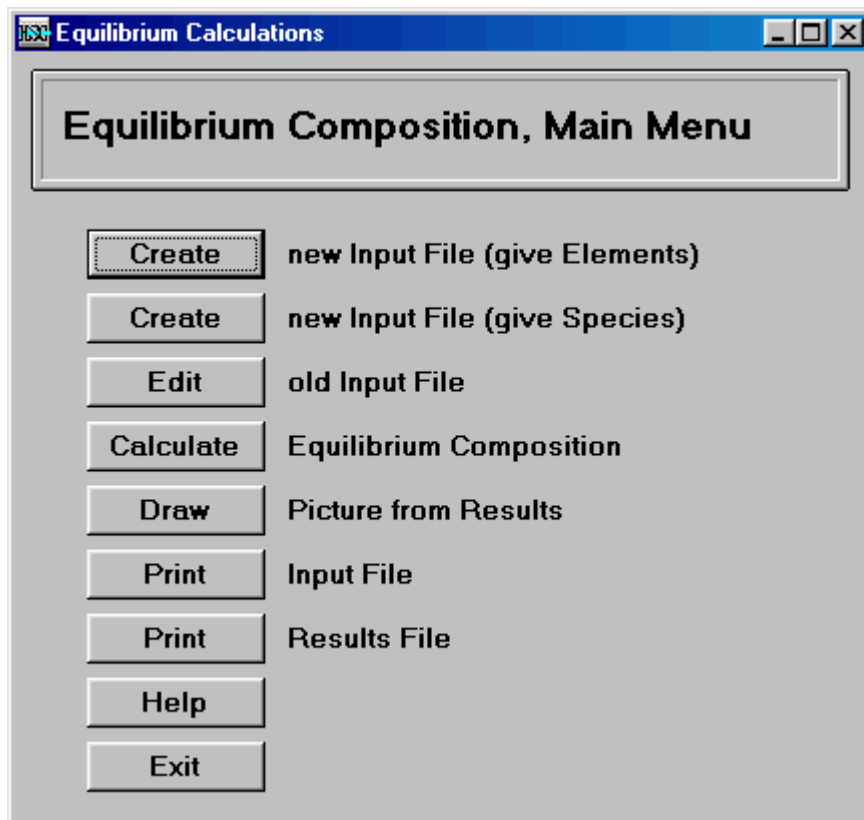
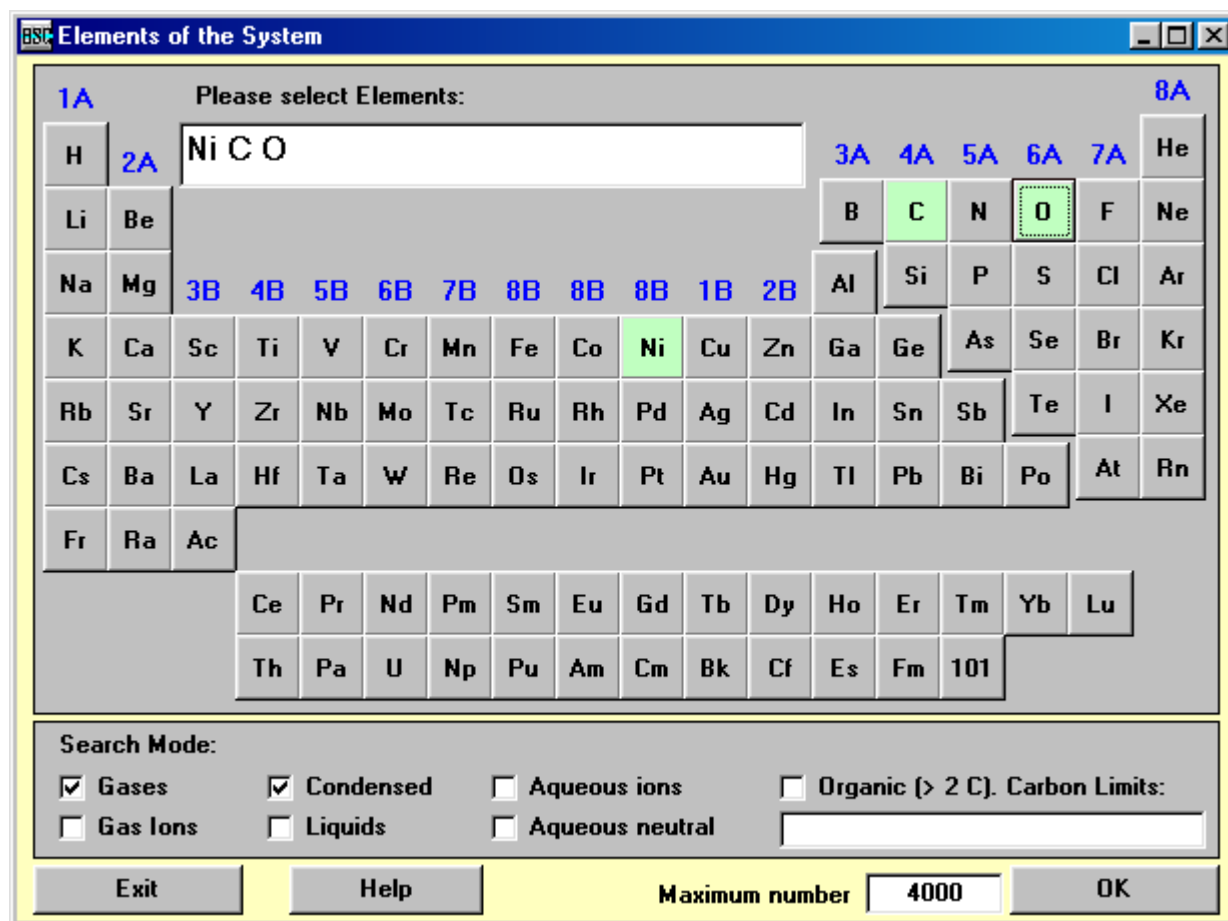

Fig. 1. Equilibrium Module Menu.
Fig. 2. Specifying the elements of the system.
The equilibrium composition is calculated using the GIBBS or SOLGASMIX solvers, which use the Gibbs energy minimization method. The results are saved in *.OGI or *.OSG text files respectively. The post-processing PIC-program reads the result files and draws pictures of the equilibrium configurations if several equilibria have been calculated. The user can toggle between the equilibrium and graphics programs by pressing the buttons shown in Figs. 1, 4, 6 and 7.
1. Press the **top button** in the menu, see Fig. 1. Then specify the elements which are present in your system, see Fig. 2. The HSC-program will search for all the available species in the database and divide them, as default, into gas, condensed and aqueous phases. The user can then edit this preliminary input table.
1. Press the **second button** of the menu if you already know for sure the possible substances and the phases of the system, see Fig. 1.
1. Press **Edit Old Input File** if you already have an input file which can be used as a starting file. Edit the input table and save it using a different name, see Fig. 1.
If you only want to calculate the equilibrium compositions with the existing *.IGI-files press **Calculate**, see Fig. 1. If you want to draw pictures from the existing *.OGI files
made by the GIBBS-solver press **Draw**, see Fig. 1. Using **Print** you can get a paper copy of the *.IGI and *.OGI files.
If you do not know the substances of the system you may also start by specifying its elements, i.e. a selection of the system components. The elements selected will be displayed in the Elements Window, see Fig. 2. After pressing **Elements** in the Equilibrium Menu, see Fig. 1, you can continue with the following steps:
1. Select one or more **elements**: Press buttons or type the elements directly into the box. Try for example Ni, C, O, as given in Fig. 2. Do not select too many elements, to avoid a large number of species. In practice 1 - 5 elements is OK
1. The results in the output-file can be further processed to graphical form by pressing **Draw** in Fig. 1 or 6 if several successive equilibria have been calculated.